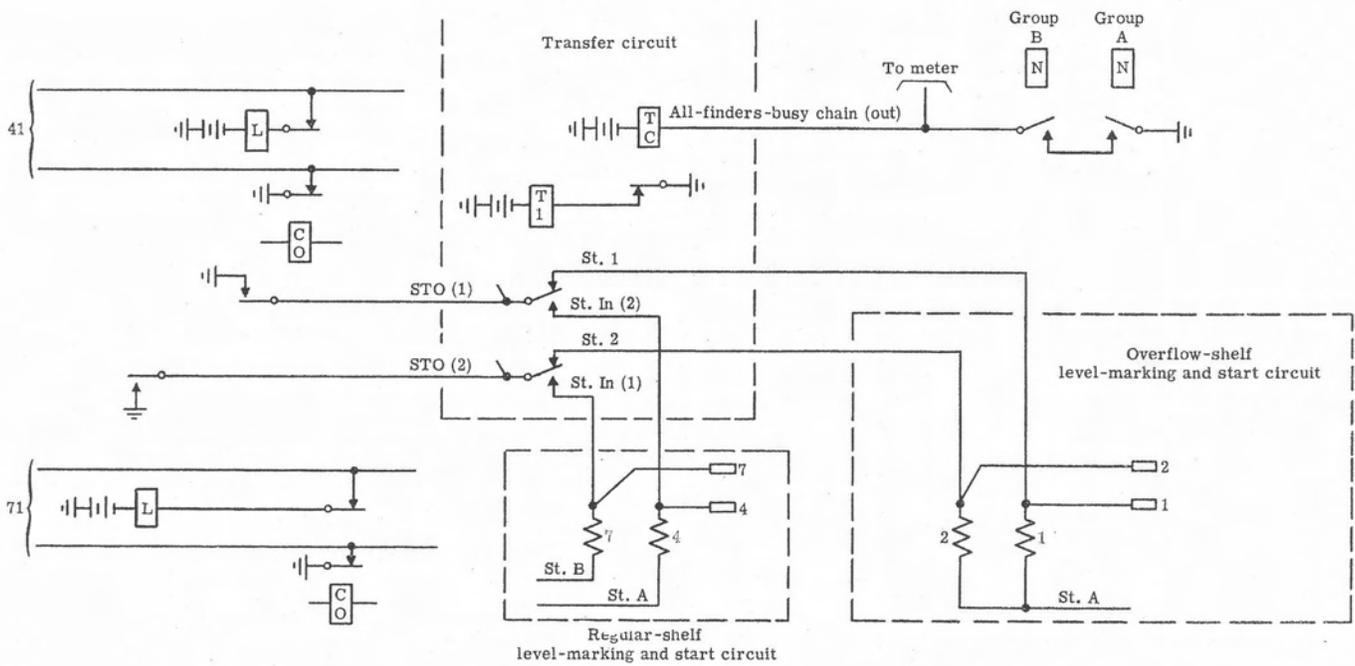

Figure 47. Overflow-shelf transfer circuit.
7.4 Circuit operation. Overflow-shelf linefinder and group-relays circuits are similar to those of a regular shelf. In addition, an overflow shelf has a "transfer" circuit (figure 47). Normally overflow lines will be found by overflow-shelf finders, but when all overflow-shelf finders are busy, the transfer circuit transfers the overflow lines' start leads to the regular shelf. For example, when line relay 41 operates, the ground it places on lead STO(1) goes through relay T1 make contacts to linefinder vertical-bank contact 1 and through overflow-shelf level-marking and start resistor No. 1 to lead St.A.